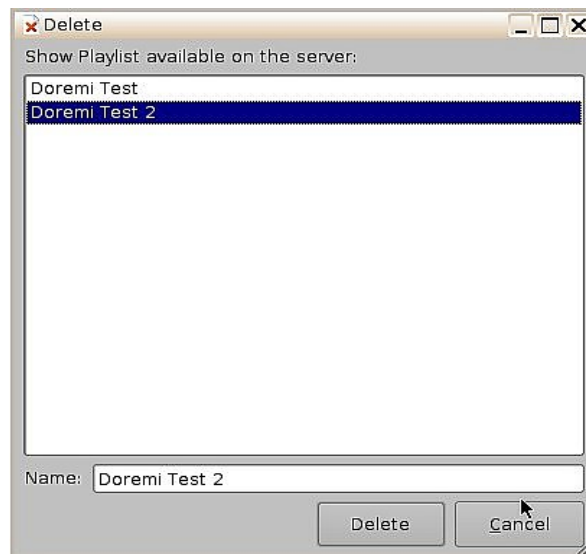

Figure 168: Delete SPL Window
- The Delete window will appear (Figure 168).